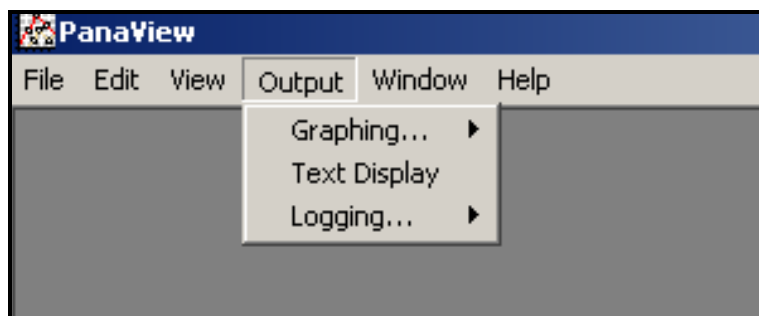

Figure 14: The Output Menu
1. In PanaView, pull down the *Output* menu, as shown in Figure 14 below, and click on the *Text Display* option.